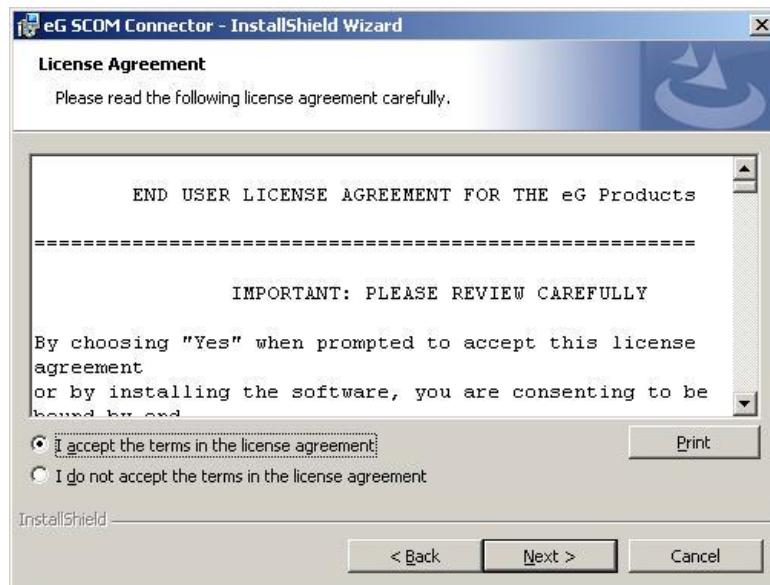

Figure 2.3: The License agreement
5. Click the **Next** button in Figure 2.2 to proceed with the installation. Figure 2.3 will then appear.
6. Accept the license agreement and click the **Next** button in Figure 2.3.